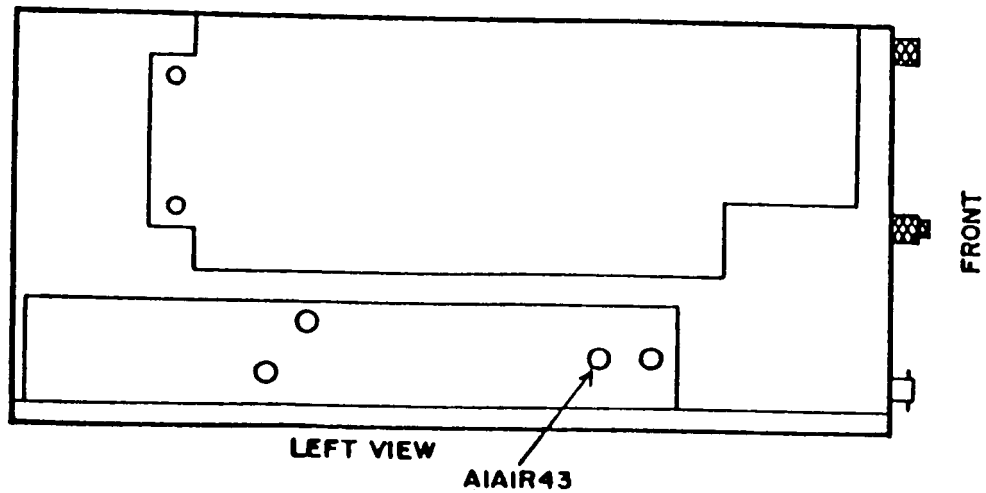

Figure 3. Test instrument - left view.
(29) Set **HI LVL - μVX100-NORM** switch to **NORM** and **BFO-RF LEVEL** control to **-80 dBm**. Measuring receiver will indicate between -74 and -86 dB.
b. Adjustments. Adjust A1A1R43 (fig. 3) until measuring receiver indicates -60 dB (R).
- (1) Adjust A1A1R43 (fig. 3) until spectrum analyzer indicates signal at the reference established in **a** (5) above (R).
- (2) This adjustment may have to be set for best in-tolerance compromise between 100 and 999 MHz.